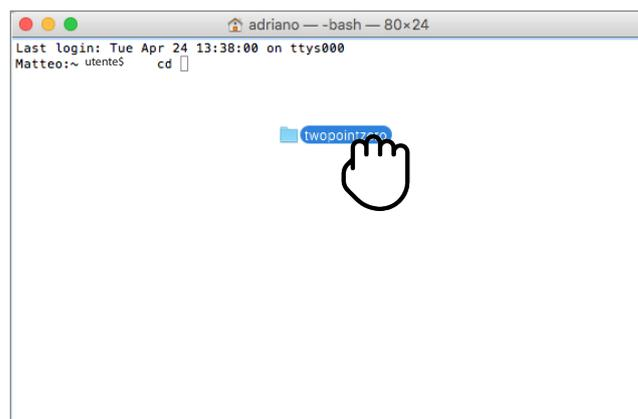

Figure 2-10
- drag the folder “TwoPointZero InnovAPP desktop version - MAC” into the command window (Figure 2-10) and press Enter